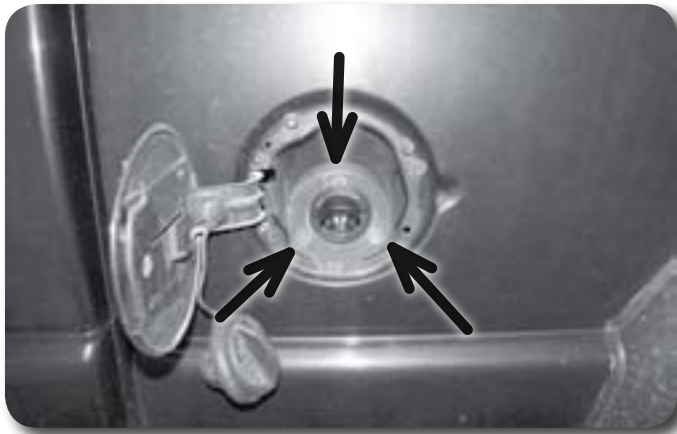

Figure 23
27. Remove the fuel filler cap to access the three screws mounting the filler neck to the plastic body shroud Figure 23. Remove the three screws to allow the filler neck to fall through the shroud while lifting the bed.